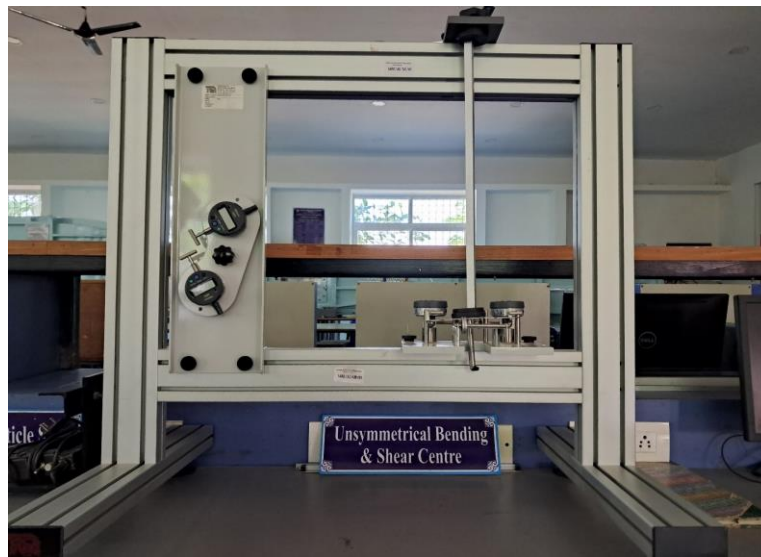

Fig. 4.1: Apparatus required for the unsymmetrical bending test
- I. Determine the unsymmetrical bending of a given open section beam by using the apparatus shown in Fig. 4.1
- II. Determine the unsymmetrical bending of a given closed section beam by using the apparatus shown in Fig. 4.1